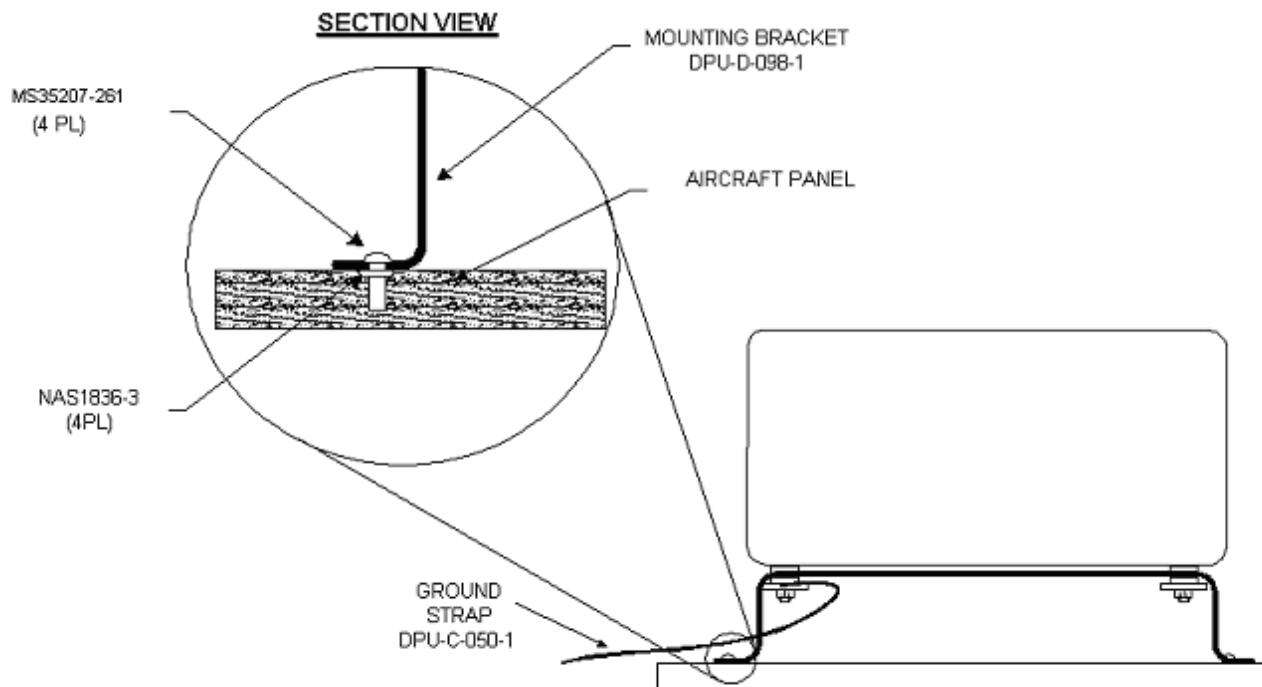
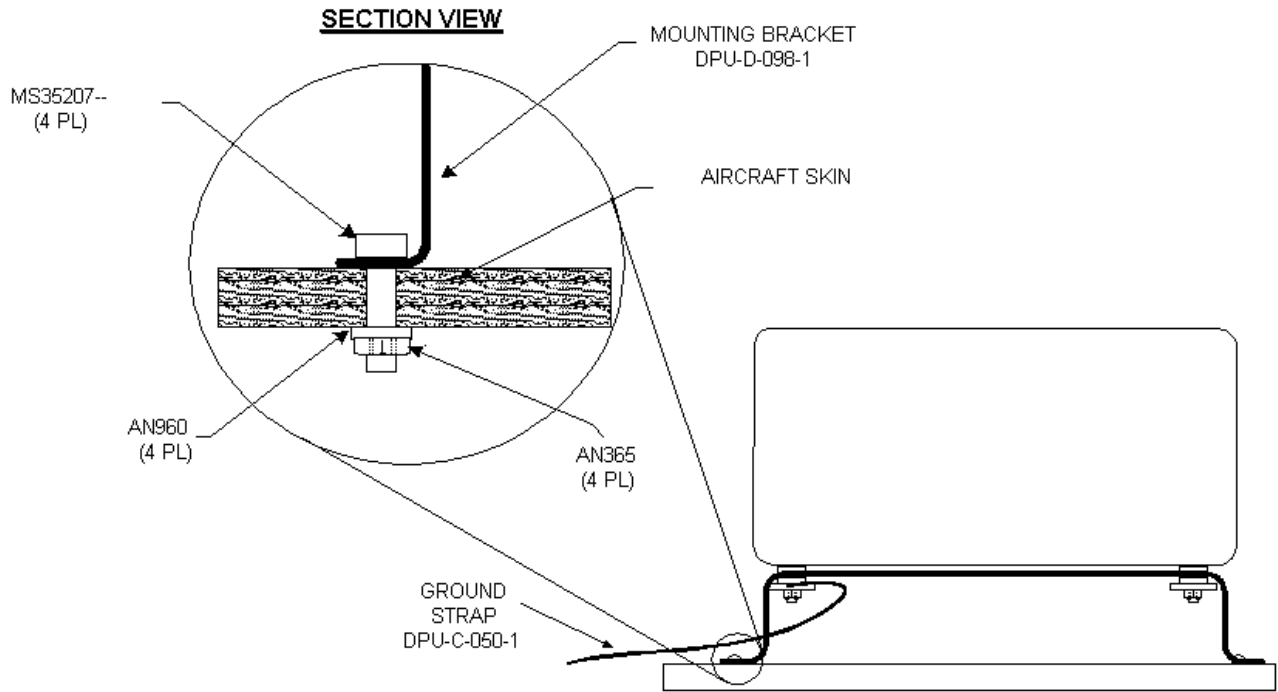

Figure B- 5: Stand Alone Bracket (DPU-D-098-1) to Honeycomb/Sandwich Panel (Side View)
Figure B- 6: Stand Alone Bracket (DPU-D-098-1) to Metal Skin (Side View)
2. If the current location of the Gen III processor does not have sufficient space, the DTU can be mounted in another location using the Low Profile Bracket (DPU-D-098-1). See Figure B- 5 or Figure B- 6. Refer to the applicable aircraft maintenance manual for specific instructions regarding standard practices for structural mounting.
- ❑ 060 Mount the DTU processor and bracket using the required hardware. Refer to applicable Figure B- 5 or Figure B- 6.